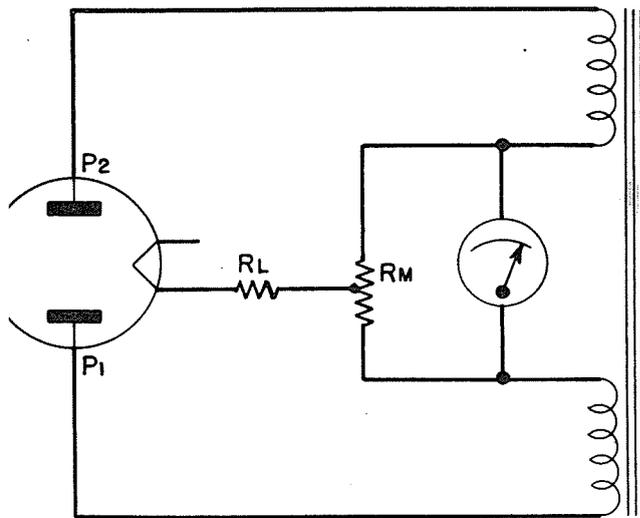

Figure 2-1. Rectifier Diagram Illustrating Theory
### 2. THEORY OF OPERATION (See figures 2-1 and 2-2)
a. Examine first the simple full-wave rectifier circuit shown in figure 2-1. The two power transformer secondary windings have their inner ends connected to a direct-current milliammeter. Across the milliammeter is a center-tapped resistor  $R_M$ . The load is shown as a resistance  $R_L$ , connected between the center tap and the rectifier filament as in any full-wave rectifier circuit. When rectifier plate  $P_2$  is positive, electron flow is through the upper half of  $R_M$ , and the meter tends to deflect in one direction. When  $P_1$  is positive, electron flow is through the lower half of  $R_M$ , and the meter tends to deflect in the other direction. With the load resistance fixed and equal forces acting on the meter in both cases, the meter stays at zero because it cannot follow variations at the power line frequency.